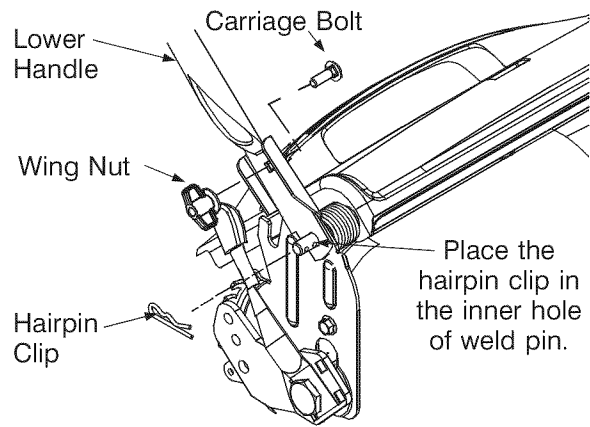

Figure 2- For models with 8" rear wheels.
- Remove the hairpin clips from the outer hole in the weld pins on the handle mounting brackets. Place the hairpin clips in the inner hole. See Figures 2 and 3.
- Place one carriage bolt (found in the hardware pack included with your unit) in the upper hole of the right handle mounting bracket from the inside outward. See Figures 2 and 3. Secure with one wing nut. Repeat process on the left side.